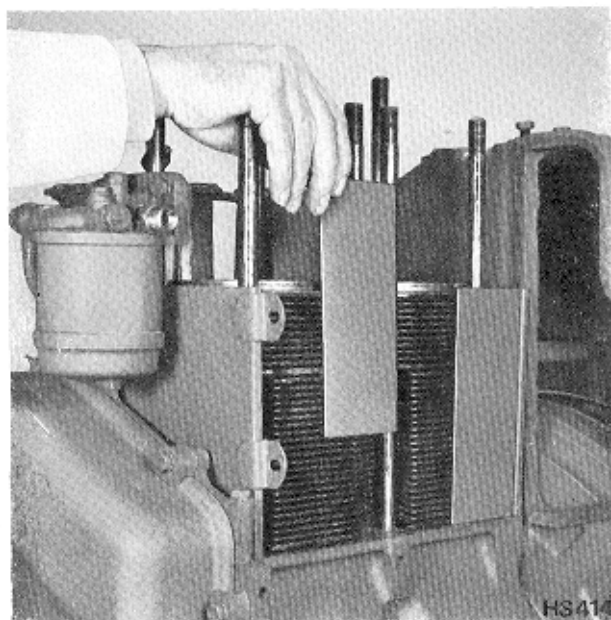

Fig. 48 Position of Air Shields
AIR SHIELDS (Fig. 48)
- (k) Replace centre and side shields (Fig. 48). Refit cylinder head.